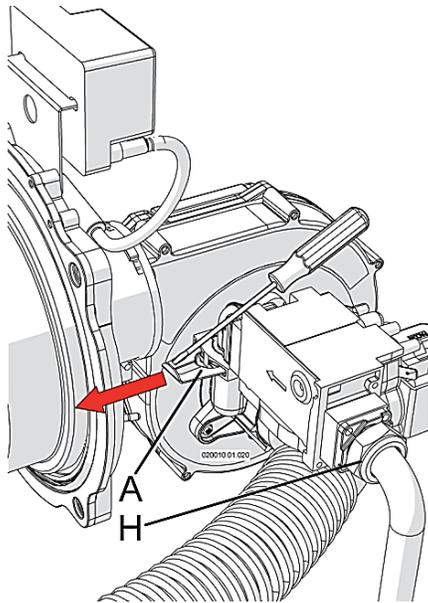
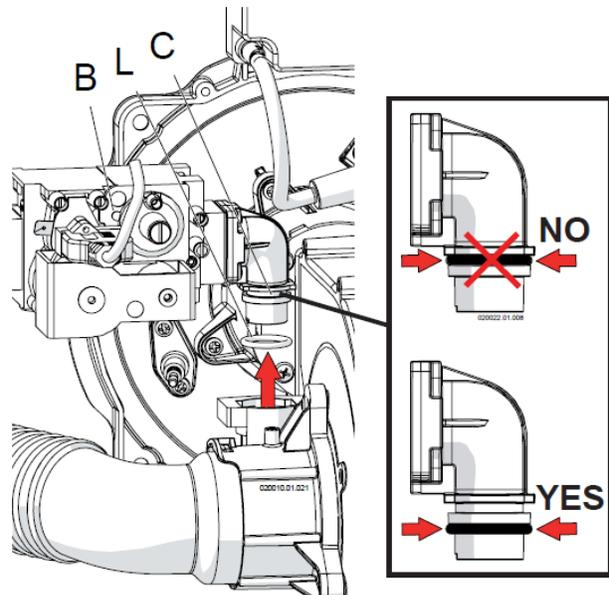

Figure 7-2: Dismantling the Gas Valve
Figure 7-3: Lifting up the Gas Valve
10. Unscrew nut “H” as per Figure 7-2.
11. Using a screwdriver, remove spring clip “A” (Figure 7-2);
12. Remove the gas valve from its site “C” as per Figure 7-3 (note O-ring “L”).
14. Reinstall the gas valve, taking care to properly position O-ring “L” per Figure 7-3 and to place the gasket between the gas valve and nut “H” in Figure 7-2.
16. Check for any gas leaks on nut “H” as per Figure 7-2.